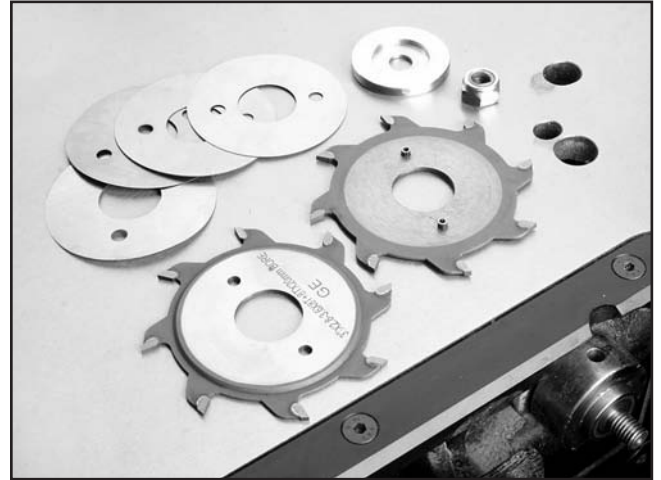

Figure 33. Scoring blade with shims.
- Measure the thickness of the main blade. Use the shims (**Figure 33**) to stack the scoring blade to the same thickness as the main blade.